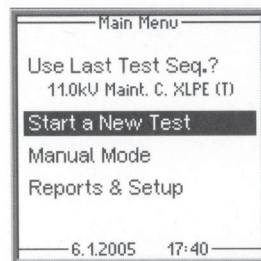

Figure 1
- [7] Using "Control Wheel" on front of unit, **SELECT** "Start A New Test" option from main menu (see Figure 1) **OR USE** last test sequence when performing same test on multiple cables.